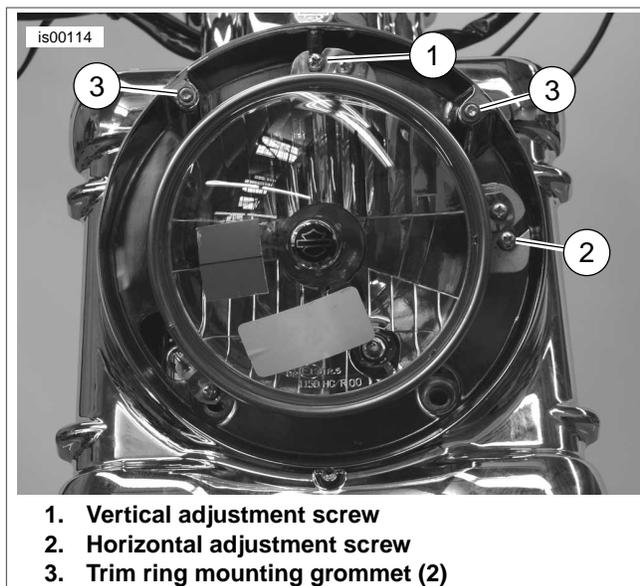

Figure 6. Headlamp Adjustment
3. See Figure 6. Position the motorcycle 25 ft (7.6 m) away from a screen or wall. Measure the distance from directly below the front axle to the base of the wall or screen.
- a. See Figure 6. Raise or lower the headlamp beam, as necessary, by turning the vertical adjusting screw (1). Turn the screw clockwise to raise the beam or counterclockwise to lower the beam.
- b. See Figure 6. Adjust the headlamp beam left or right, as necessary, by turning the horizontal adjusting screw (2). Turn the screw clockwise to adjust the beam towards the rightside of the motorcycle or counterclockwise to adjust the beam towards the leftside of the motorcycle.
1. See Figure 6. Install trim ring over grommets (3) and turn the trim ring counterclockwise until the trim ring retaining screw can be threaded into the nacelle.